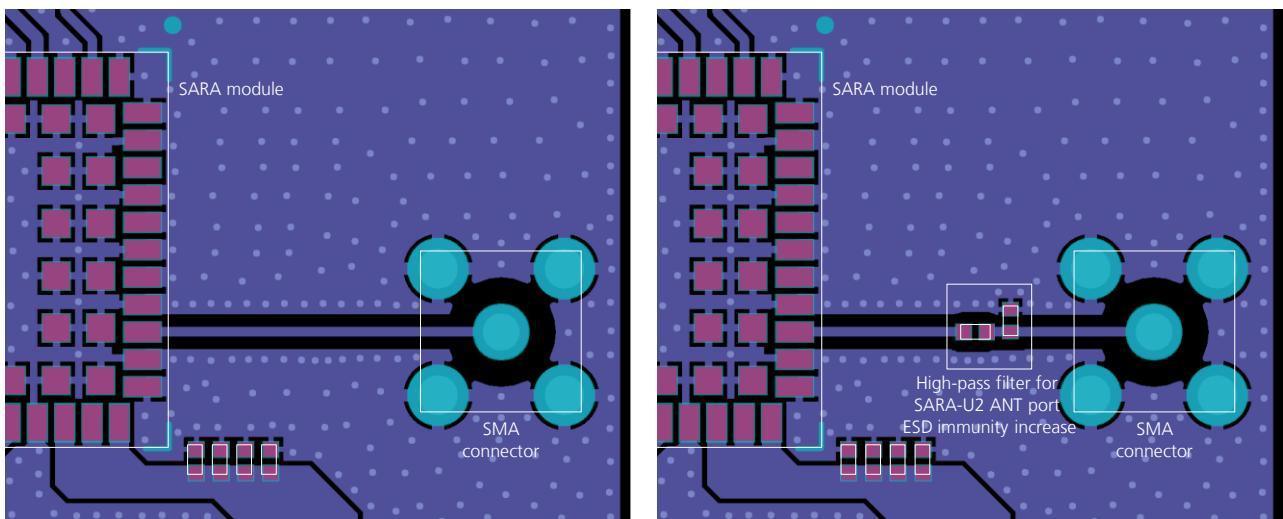

Figure 52: Suggested circuit and layout for antenna RF circuit on application board, if antenna detection is not required
- Add GND vias around transmission line, as described in Figure 52.
- Ensure solid metal connection of the adjacent metal layer on the PCB stack-up to main ground layer, providing enough on the adjacent metal layer, as described in Figure 52.
Two examples of proper RF circuit design are reported in the Figure 52, where the antenna detection circuit is not implemented (if the antenna detection function is required by the application, follow the guidelines for circuit and layout implementation reported in section 2.4.2):
- SMA Pin-Through-Hole connectors require GND keep-out (i.e. clearance, a void area) on all the layers around the central pin up to annular pads of the four GND posts, as shown in Figure 52.
If the antenna detection function is not required by the customer application, the **ANT_DET** pin can be left not connected and the **ANT** pin can be directly connected to the antenna connector by means of a $50\ \Omega$ transmission line as described in Figure 52.